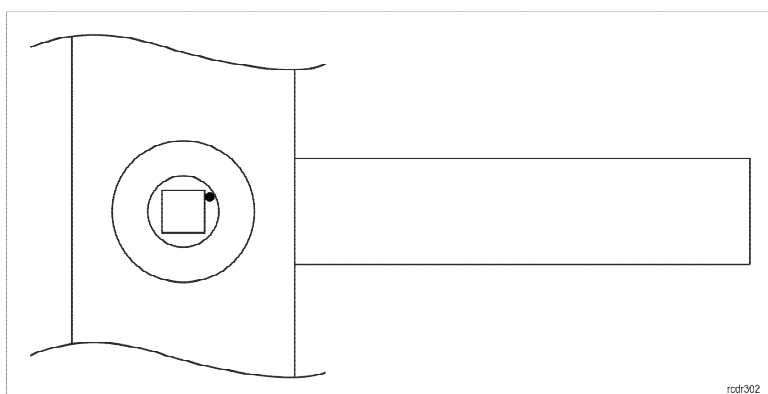

Fig. 7 Proper position of spindle support
- Check position of spindle support (fig. 7) and mount door handle spindle.